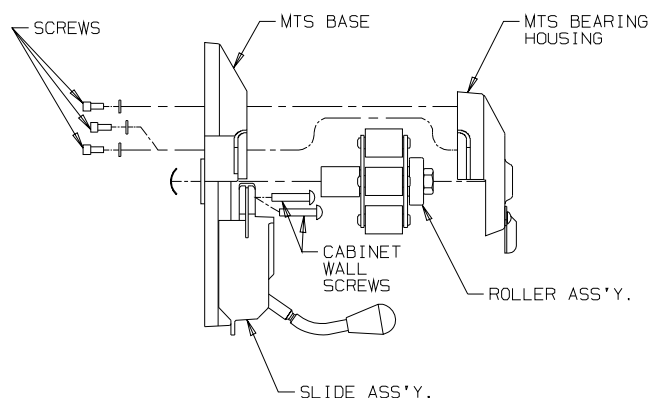

Figure 9-8
5. Remove three screws on the back of the base holding the bearing housing and pull the bearing housing from the base. See Figure 9-8.